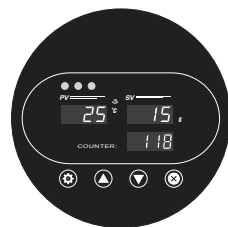

Fig. 14
- After selected, then give a long press about 8 seconds to the (⊕) set button, it will record settings and back to the original panel to work(Fig.14).